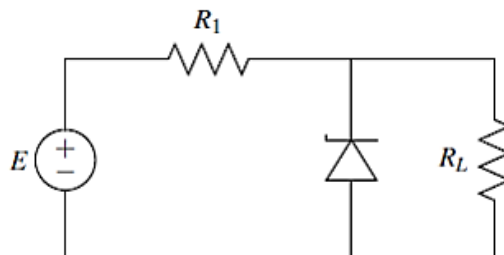

Figure 1.16: Schematic for task 7
1. Consider the circuit shown in Figure 1.16 where $E = 15V$, $R_1 = 1k\Omega$ and $R_L = 1k\Omega$.